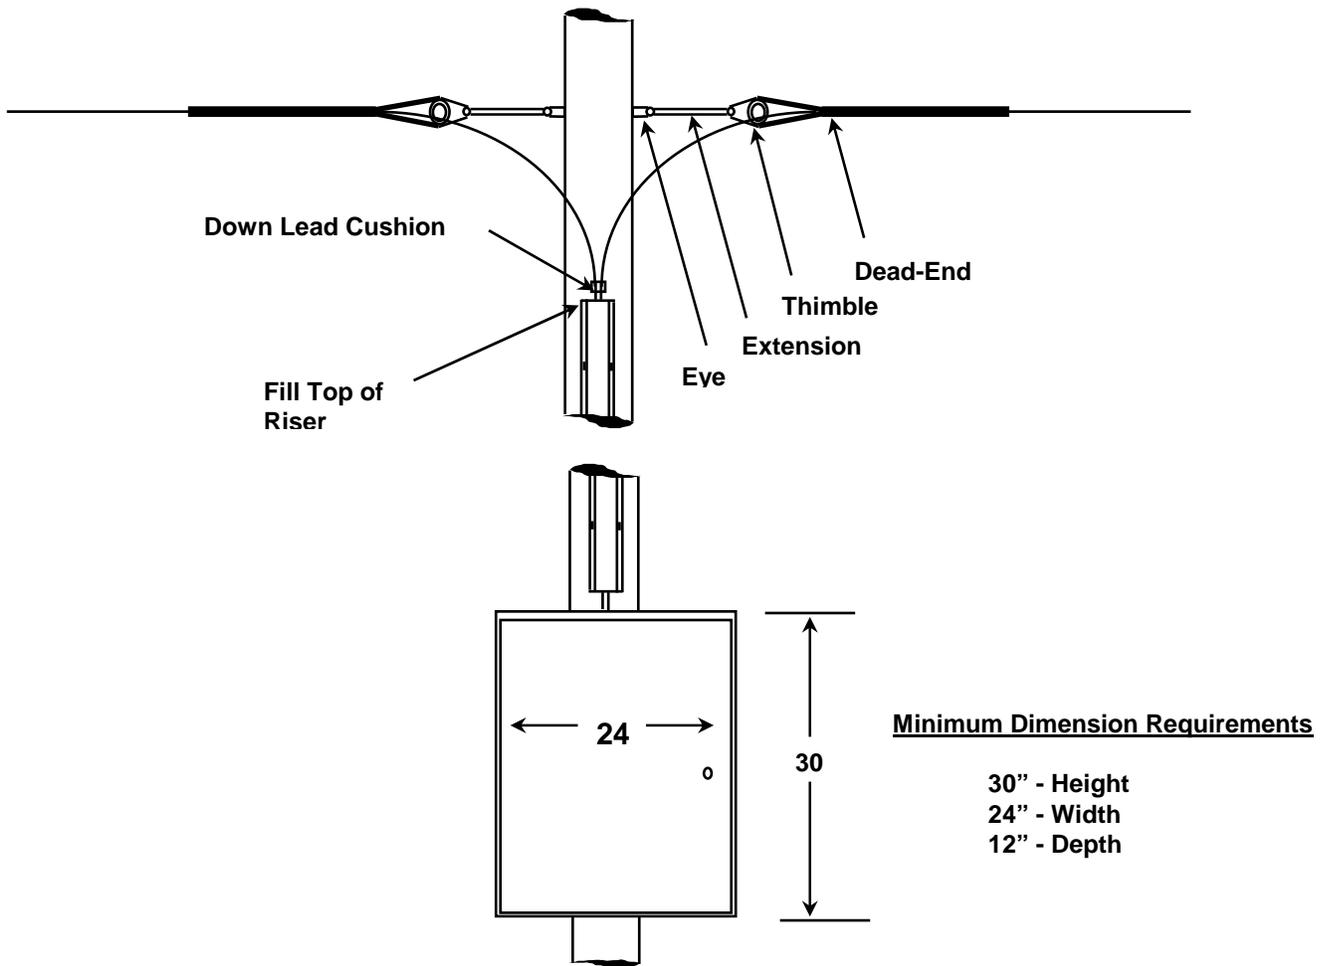

Figure 13 – This slack storage method can also be configured for H structures and steel lattice towers.
- k) At cable storage locations, slack cable must be pulled from the reel to the slack storage location. A temporary dead end must be placed in the span in the direction of the cable reel. The position of the temporary dead end is determined by the amount of slack cable that is needed. A pulling rope is then attached to the temporary dead end and the cable slack is pulled from the cable reel to the structure. If needed, the stringing block can be left in place to guide the cable. If not needed, the stringing block can be removed during this process. After pulling the slack cable, install a permanent dead end on the cable and attach it to the structure. The temporary dead can then be removed and the cable slack stored as required. Some common slack storage methods are shown in Figures 13, 14, and 15.
- k) Remove the temporary dead end and store the cable slack as required. Some common slack storage methods are shown figures 13, 14, and 15.